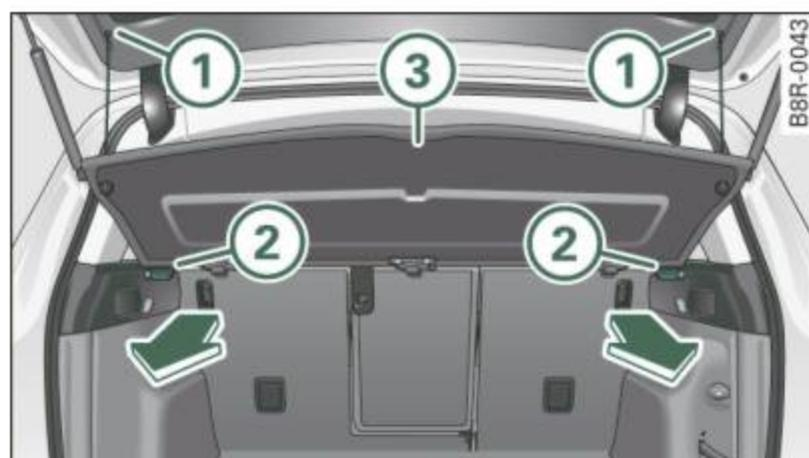

Fig. 81 Luggage compartment: cover attached
- Unhook the straps (1) ⇒ fig. 81.
- Pull the cover (3) out of the retainers (2) in the direction of the arrow.